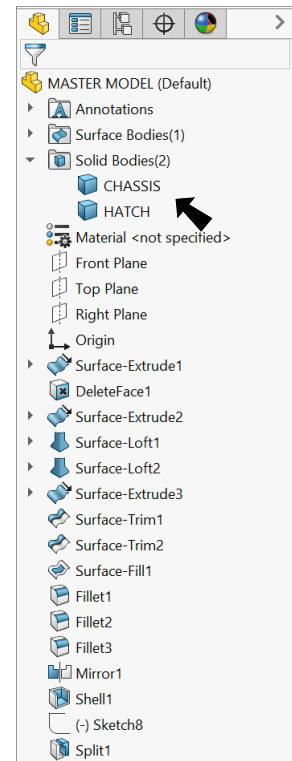

Fig. 70
Step 2. **Rename bodies CHASSIS**  and **HATCH** , **Fig. 70**. To rename, expand **Solid Bodies**  folder in the Feature Manager. Slowly click twice over **Split1**  and key-in **CHASSIS** or use the F2 key. Repeat and rename **HATCH**.